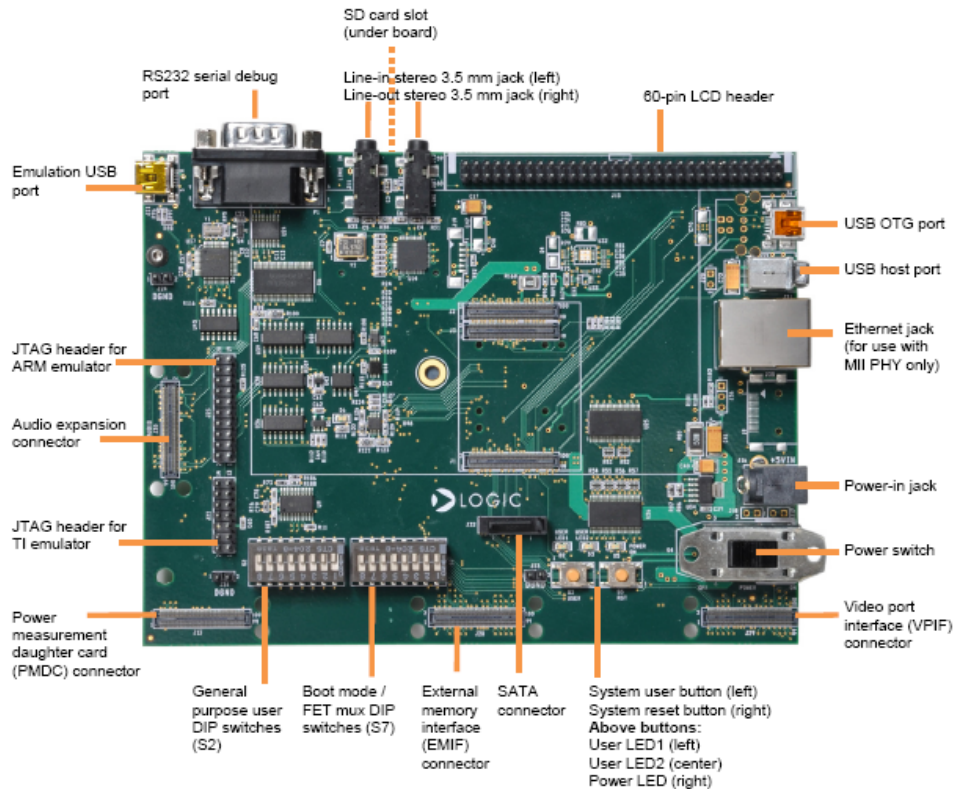

Figure 16: Application baseboard.
- An application baseboard (Figure 16).